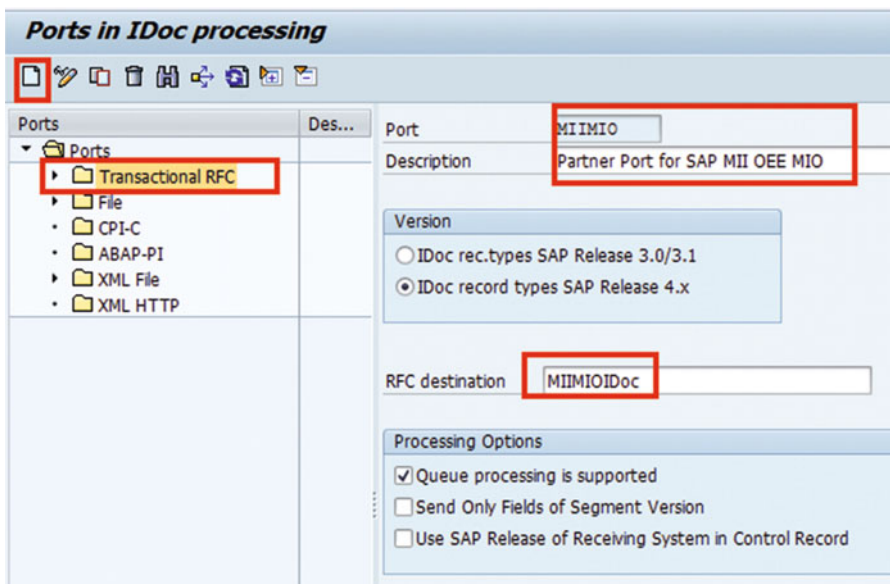

Figure 3-65. Create logical port
2. On the Ports in IDoc processing screen, select the Transactional RFC node and choose the Create icon (refer to Figure 3-65).